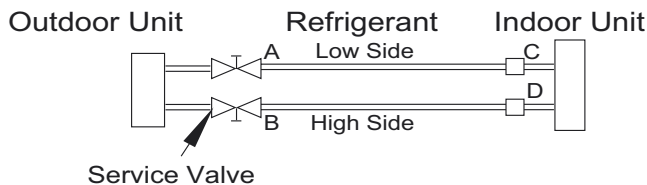

Fig. 13 —Service Valve
3. Fully open the low side of manifold gage (see Fig. 13).